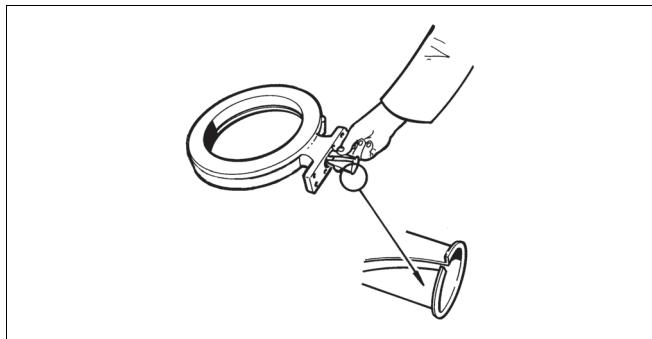

Fig. 17 Mounting the standard bearings
- Mount the bearings into the body (see Fig. 17).